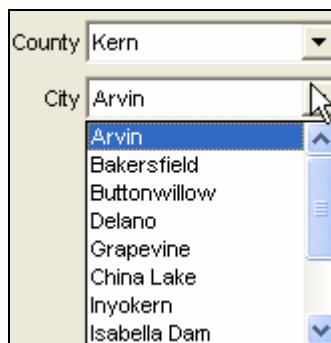

Figure 16.4.12A
- Next use the drop down arrow next to **City** to select a city within that county (Figure 16.4.12A).